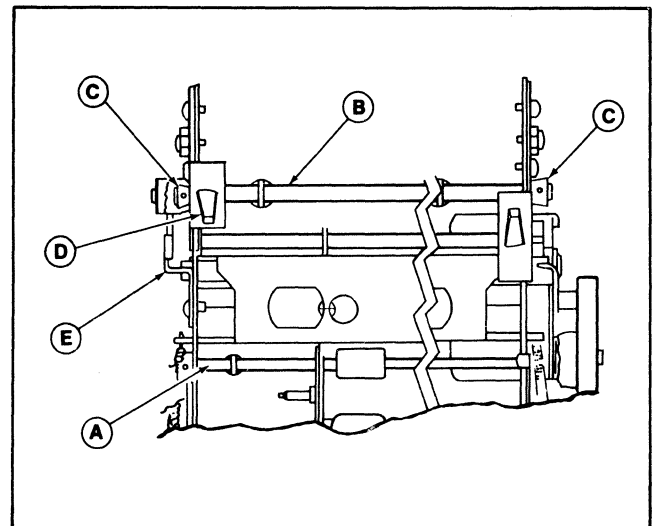

Figure 3-7. Carrier Assembly Adjustment
- (1) Carrier Assembly Bias Shaft, Figure 3-7, item (A). Check for axial movement = $.001 \text{ in.} \pm .0005 \text{ in.}$ ($.03 \text{ mm} \pm .01 \text{ mm}$). Adjust the collar at (A) as required to achieve this dimension.
- (2) Platen Position Torque Shaft, Figure 3-7, item (B). Check that the setscrews in the eccentric collars (C), at each end of this shaft are aligned vertically with each other when the platen position lever is full forward, and that the shaft end play = $.002 \text{ in.} + .001 \text{ in.}$ ($.05 \text{ mm} + .03 \text{ mm}$). Adjust the collars for the proper clearance. Note, however, that failure of the collars to align vertically indicates a twisted shaft, which will affect several platen adjustments.
- (3) Platen Position Lever, Figure 3-7, item (D). Move the lever back and forth. A positive detenting force must be felt for all positions. Adjust the detent plate (E), as necessary to achieve an even detenting action. The carrier assembly must move equally at both ends in increments of $.005 \text{ in.} \pm .002 \text{ in.}$ ($.13 \text{ mm} \pm .05 \text{ mm}$) between detent positions.